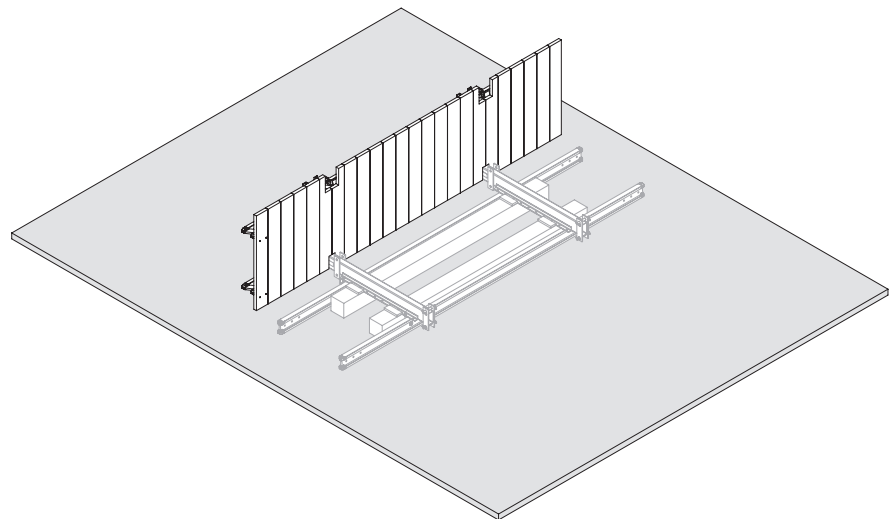

Fig. B10.09
1. Attach the base section on the front of the Finishing Platform Beam 1365 ACS (55) to the crane and position it above the Finishing Platform Verticals ACS-G (56).
2. Connect both assemblies together with the fixing materials supplied. (Fig. B10.09 + B10.10)